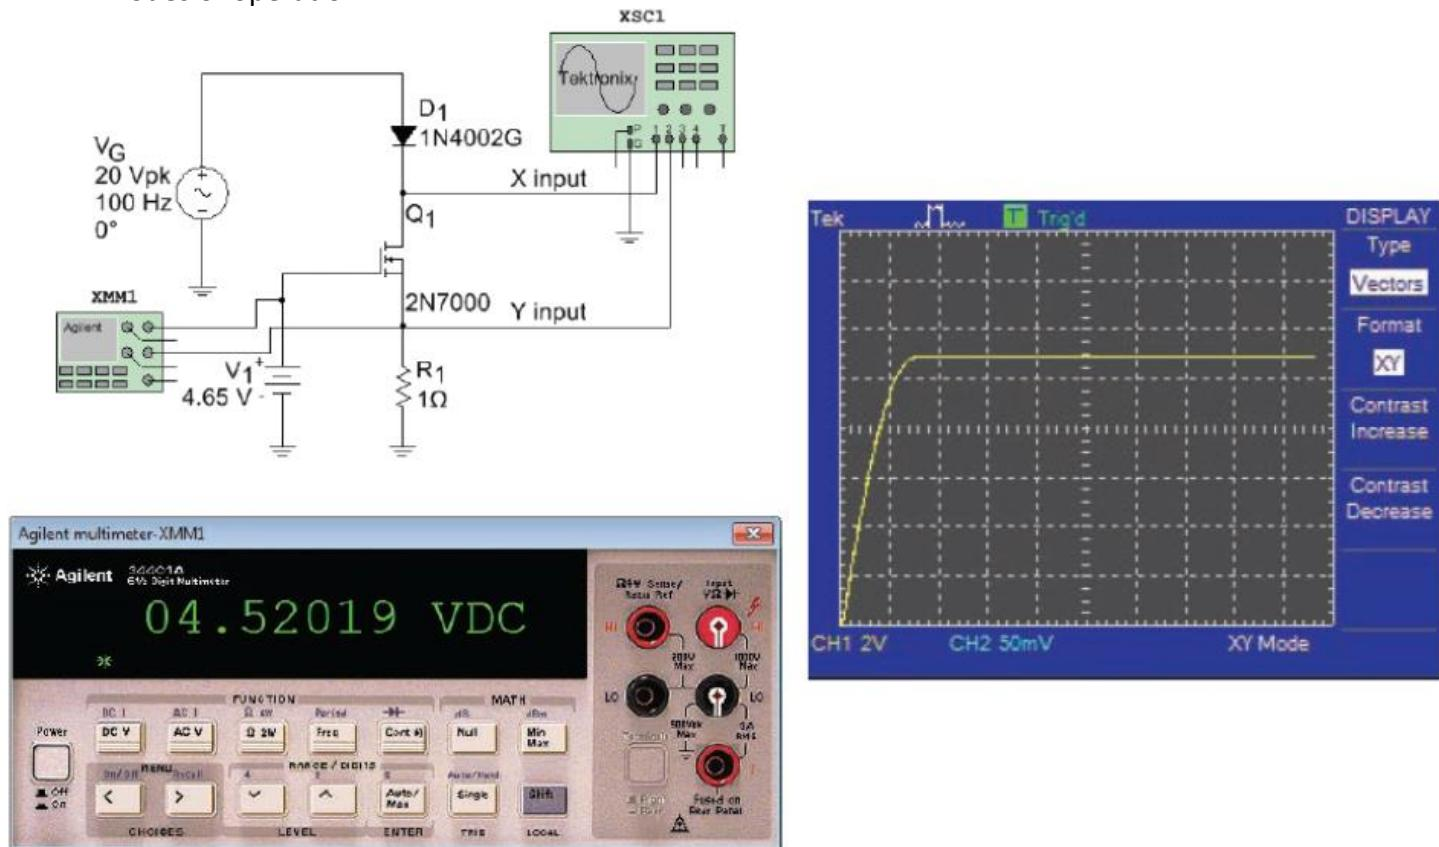

Figure-35 MOSFET testing
- The transconductance value will vary, depending on the circuit's Q point, following the relationship of $I_D = k [V_{GS} - V_{GS(th)}]^2$ and $g_m = \frac{\Delta I_D}{\Delta V_{GS}}$ $\dots \dots \dots (28)$
- If a curve tracer is not available, special test circuits can be constructed. Figure-35 shows a circuit capable of testing both depletion-mode and enhancement-mode MOSFETs. By changing the voltage level and polarity of V_1 , the device can be tested in either depletion or enhancement modes of operation.
- The drain curve shown in Figure-35 shows the approximate drain current of 275 mA when, $V_{GS} = 4.52$ V. The y-axis is set to display 50 mA/div.